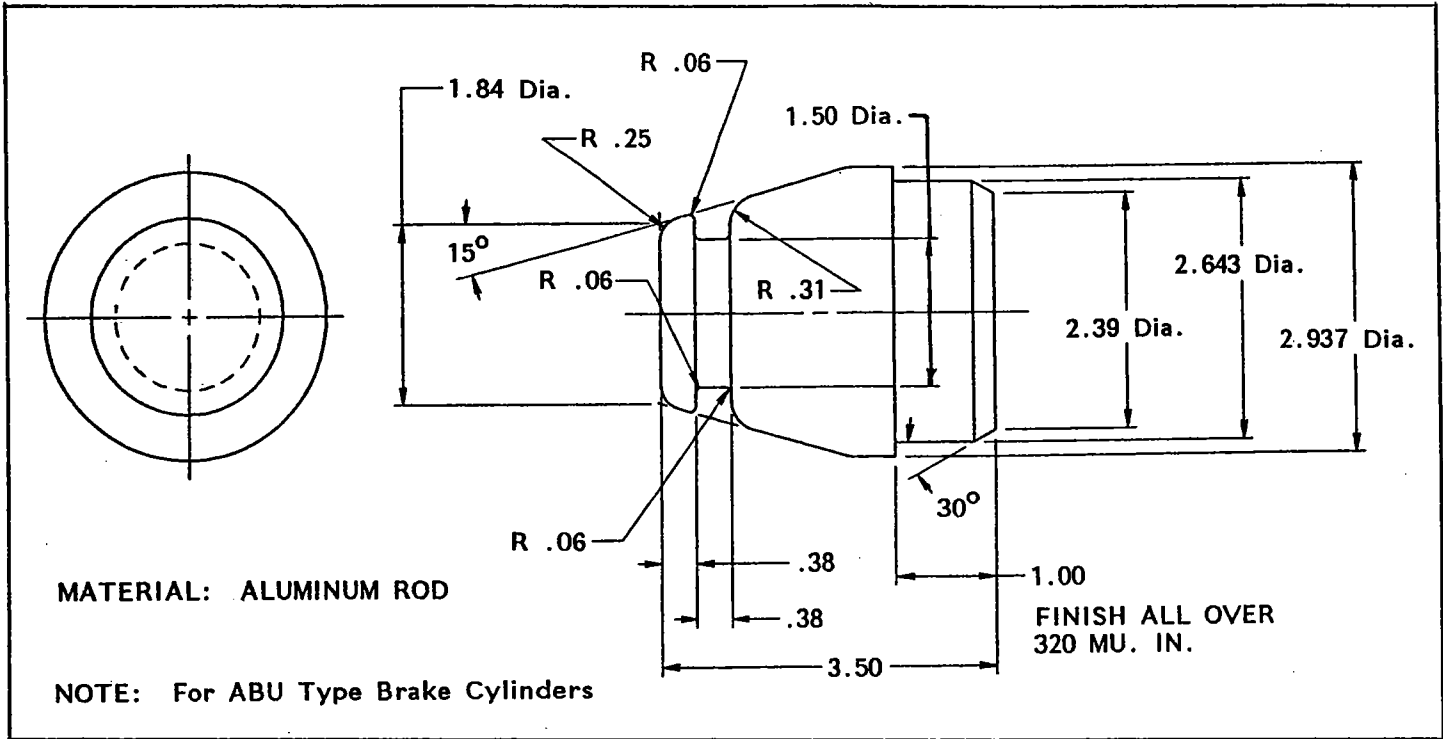

FIGURE 2 - NON-PRESSURE HEAD ASSEMBLY TOOL
6.3.2 A Non-Pressure Head Assembly Tool is required when assembling the non-pressure head on the piston and hollow rod. Dimensions and specifications for making this tool are shown in Figure 2.
NOTE: The information shown in Figure 2 for making the Non-Pressure Head Assembly Tool is furnished as a convenience. The Westinghouse Air Brake Company, or its predecessor, the Westinghouse Air Brake Division, shall have no responsibility for tools which they do not supply. The Westinghouse Air Brake Company, or its predecessor, the Westinghouse Air Brake Division, will not be responsible for the use of any tool including claims by third parties.
(Figure 2)
7.3.6 Insert the Non-Pressure Head Assembly Tool (Figure 2), non pointed end first, into the end of the hollow rod of the piston and hollow rod assembly (3, 3C).